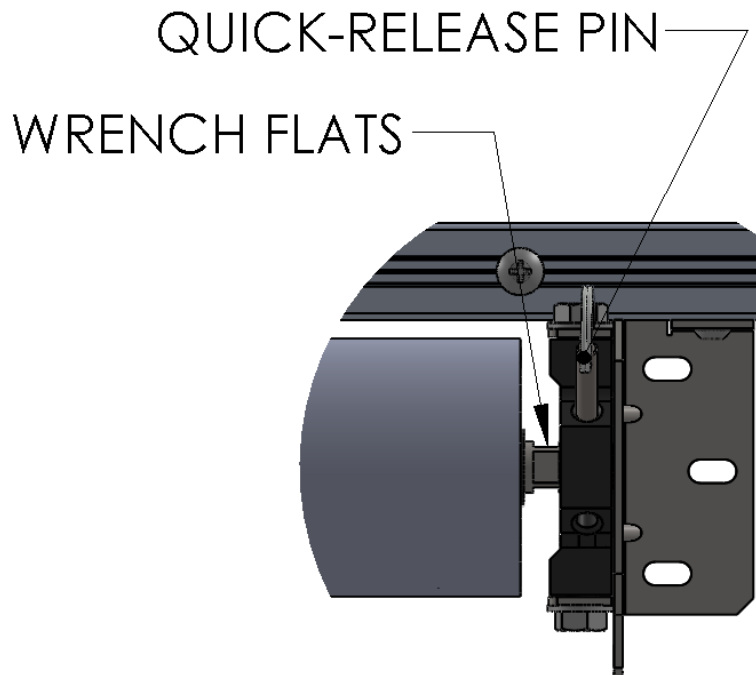

Figure 13 WRENCH FLATS/SPRING TENSIONING PIN
1. Spring tension is increased/decreased with a two-step process. To increase spring tension, insert the open-end wrench onto the wrench flats, then pull the Quick-Release pin. Pull the wrench down (CCW) until the pin can be replaced – about a quarter turn. Repeat this two-step process about 8 times equaling about 2 full turns on the spring. (Figure 13 WRENCH FLATS/SPRING TENSIONING PIN)